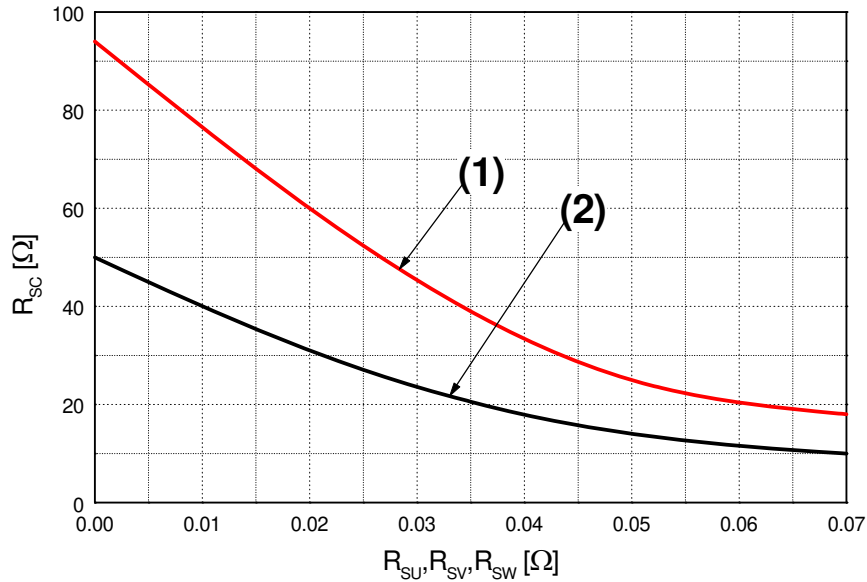

Figure 6. R_{sc} Variation by Change of Shunt Resistors (R_{SU}, R_{SV}, R_{SW}) for Short-Circuit Protection
| Sensing Voltage of IGBT Current | V _{SEN} | R _{SC} = 50 Ω, R _{SU} = R _{SV} = R _{SW} = 0 Ω and I _C = 30 A (See a Figure 6) | 0.45 | 0.51 | 0.56 | V | | |
- Short-circuit protection is functioning only at the low-sides. It would be recommended that the value of the external sensing resistor (R_{SC}) should be selected around 50 Ω in order to make the SC trip-level of about 30A at the shunt resistors (R_{SU}, R_{SV}, R_{SW}) of 0 Ω. For the detailed information about the relationship between the external sensing resistor (R_{SC}) and the shunt resistors (R_{SU}, R_{SV}, R_{SW}), please see Figure 6.